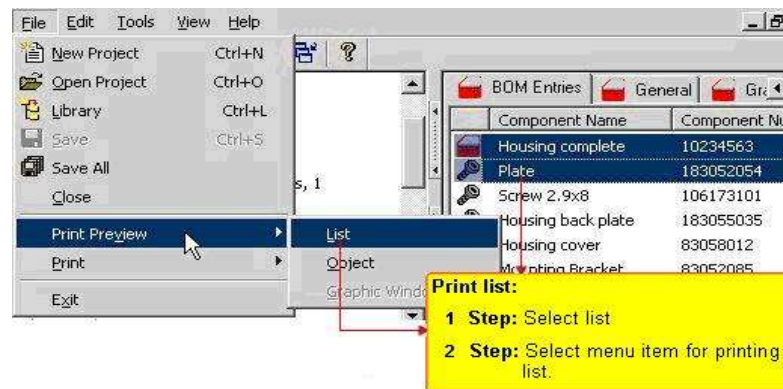

Figure 5: Printing a List
- 1) Select a list entry with the left mouse button in the left window (object list) or in Finder. *Please refer to the Figure 5.* The **Print Preview** or **Print** functions for printing lists under the **File** menu appears. If no list entry is enabled, the menu items appears grey and you cannot print out any lists.